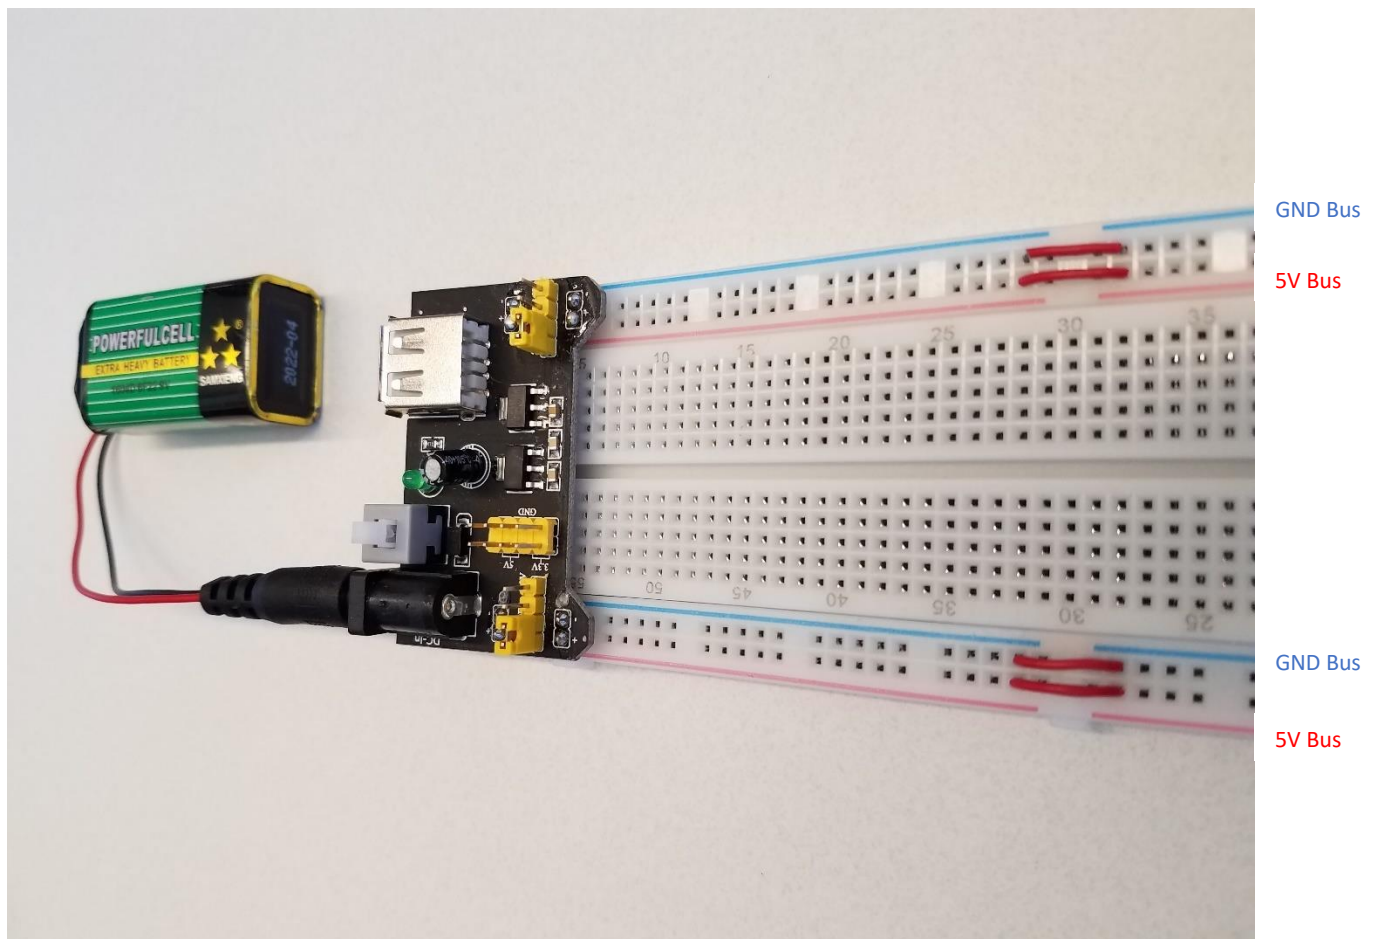

Figure 5
1. Plug the power supply module into the solderless breadboard as shown in Figure 5.
2. On the power supply module, there are two yellow jumpers. The yellow jumpers are adjustable brackets on the edge of the module. There are four prongs which provides the jumpers three positions to be in: 3.3V, Off, or 5V. Move the two yellow jumpers to the 5V position, as shown in Figure 5.
3. Insert four male-to-male jumper wires across the middle of the negative and positive lines of both busses as shown by the red wires in Figure 5. This step is important to extend the 5V and GND busses along the entire length of the board.
**NOTE:** The male-to-male jumper wires from your kit will look different than the wires shown in Figure 5, but they can be used for this.